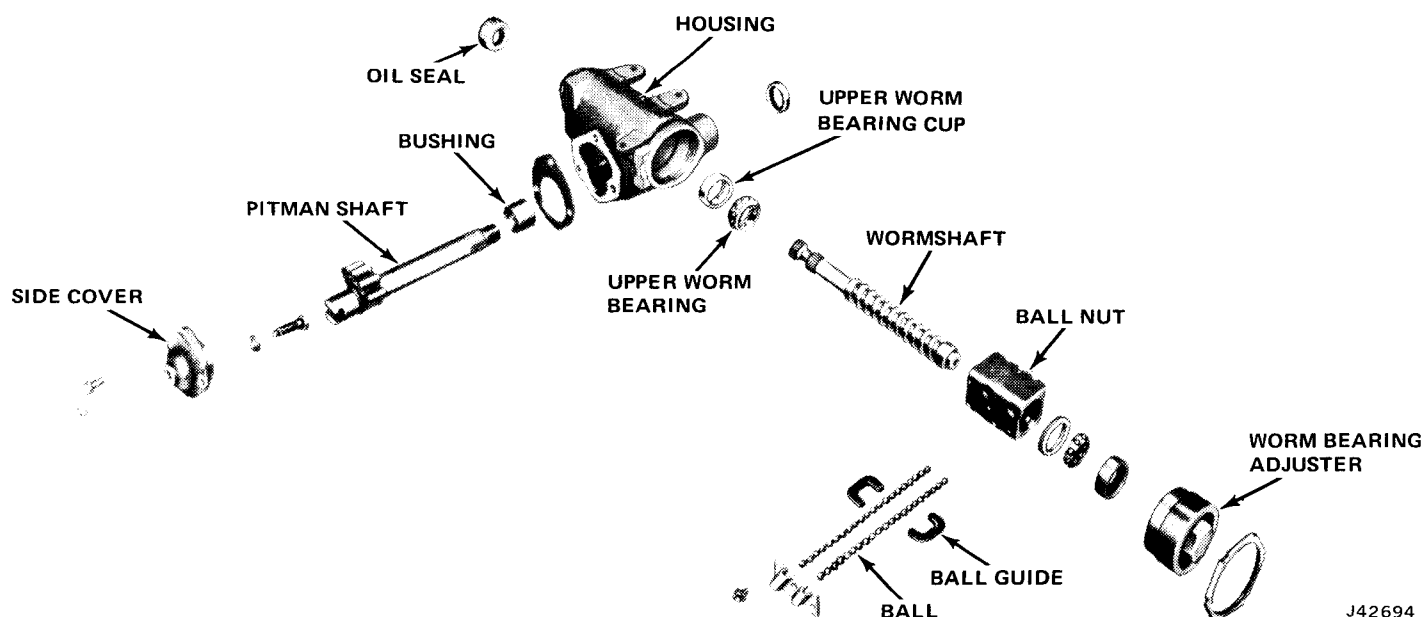

Fig. 11-50 Left-Hand Drive Manual Steering Gear
(2) Remove adjuster locknut.
(3) Remove side cover bolts and lockwashers and turn lash adjuster screw clockwise to force side cover from housing. Remove side cover and gasket (fig. 11-50).
(4) Remove adjuster screw and shim from T-slot in pitman shaft. Keep shim with screw.
(5) Remove pitman shaft from housing. Do not damage seal in housing with pitman shaft splines or threads. If necessary, tap lightly to remove shaft.
(6) Remove worm adjuster nut, remove worm adjuster, and lower worm bearing.